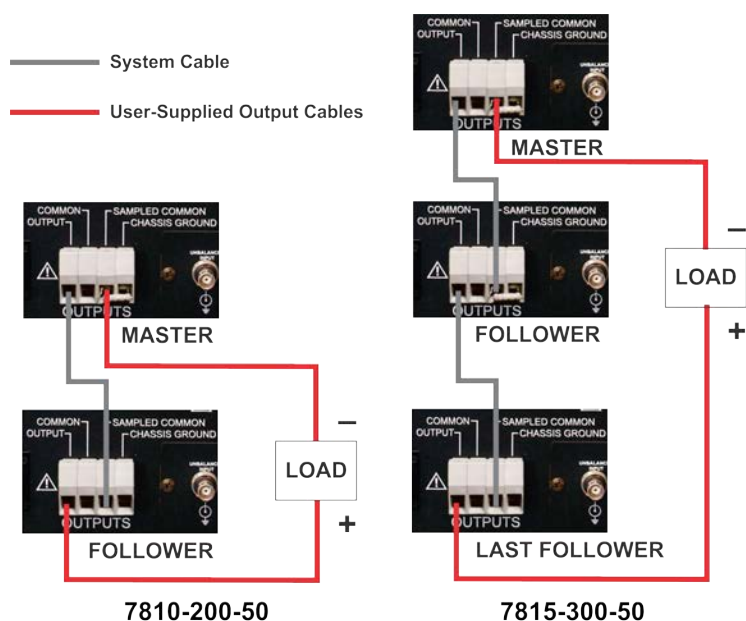

Figure 2.6 – Connecting the load
2. Locate the four-position terminal barrier block on the back panel of the Master amplifier module (see **Figure 2.6**). Connect the negative terminal of the load to the SAMPLED COMMON terminal.
3. Locate the four-position terminal barrier block on the back panel of the last Follower amplifier module (see **Figure 2.6**). Connect the load's positive terminal to the OUTPUT terminal.